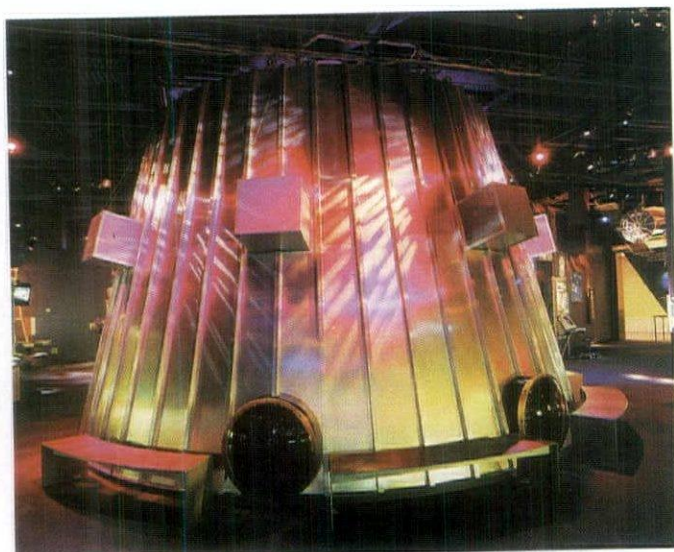

FIGURE 5
FIGURES 5 & 6—PATTERNS AND A COLOR WASH COMBINE TO ADD A FEELING OF DEPTH TO A CONICAL WALL IN THE TECH MUSEUM OF INNOVATION (MIDDLE). A TRUSS, HIGHLIGHTED WITH COLOR, ALSO CREATES VISUAL INTEREST BY CASTING SHADOWS ON THE FLOOR (BOTTOM). PHOTOS BY MARCO ZECCHIN.
*Color* may be used in lighting design to motivate, accent and enhance a space. Color in light is produced through the use of lamp color temperature, dimming the lamp source and color filters. Colored glass or dichroics may be preferred for their longer life, as color filters commonly used in theater can not withstand the heat emitted from fixtures and fade over a period of time. Glass materials used in the architectural world cost more up-front, but these costs are offset by less frequent, if any, replacement. The use of color contributes a great deal to *form*. The clear choice of a complementary, monochromatic or analogous color scheme is an important aspect in defining the comparative appearance of surfaces. (See Figures 5 & 6.)